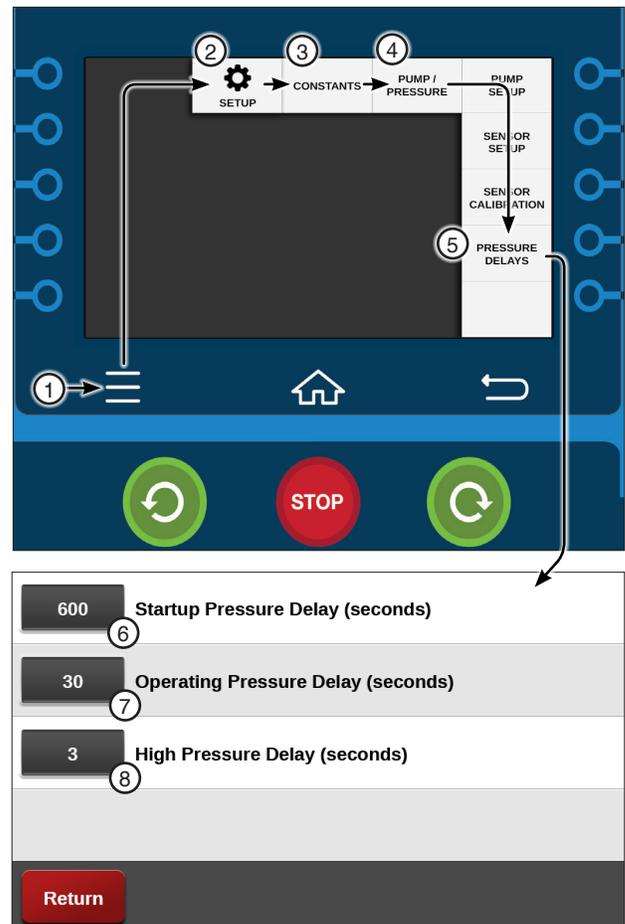

Figure 33-1 1. Menu 5. Pressure Delays
The Pressure Delay screen provides the ability to set the pressure delays for Startup, Operating and High Pressure. Refer to Figure 33-1.
Startup Pressure Delay bypasses the pressure transducer for the amount of time required in seconds for the machine to initially build water pressure above the low pressure limit after the pump has been started. The Startup Pressure Delay setting has a range of 0 to 5000 seconds. The factory default is set to 600 seconds, or 10 minutes. Refer to Figure 33-1.
1. Push **Menu**, **Setup**, **Constants**, **Pump / Pressure** and **Pressure Delays** to display the Pressure Delay screen. Refer to Figure 33-1.